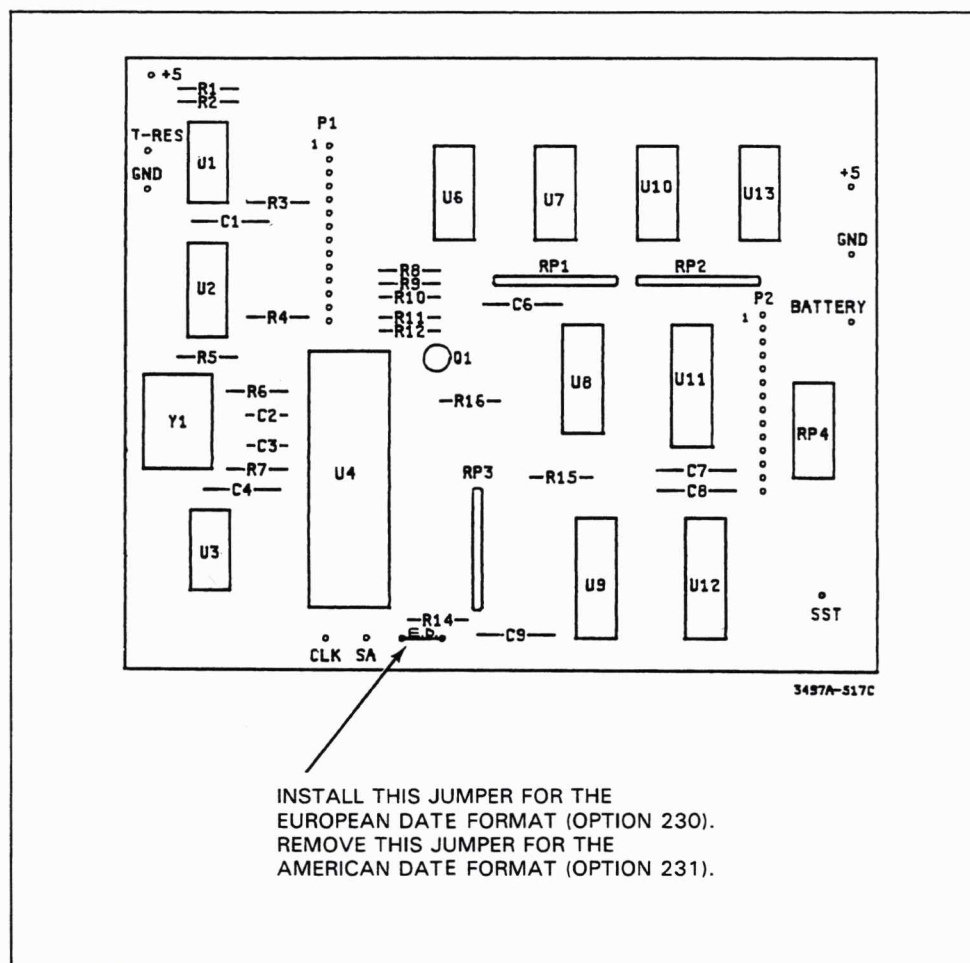

Figure 2-20. Clock Configuration Jumper
c. Refer to Figure 2-20 and locate the clock configuration jumper on the timer/pacer board. If the American date format (Option 230, M:D:H:M:S) is desired, remove the jumper. If the European date format (Option 231, D:M:H:M:S) is desired, install and solder the jumper into the appropriate holes.